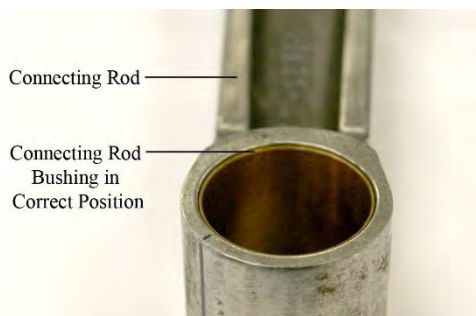

Figure 4
- (1) Either apply a straight edge or run your finger around the perimeter of each side of the connecting rod where the connecting rod bushing is installed.
- (2) Visually or by touch determine whether the connecting rod bushing is raised above the surface of the connecting rod perimeter.
- (3) If the connecting rod bushing is flush with or below the connecting rod perimeter (Figure 4), go to Step 1A (5).